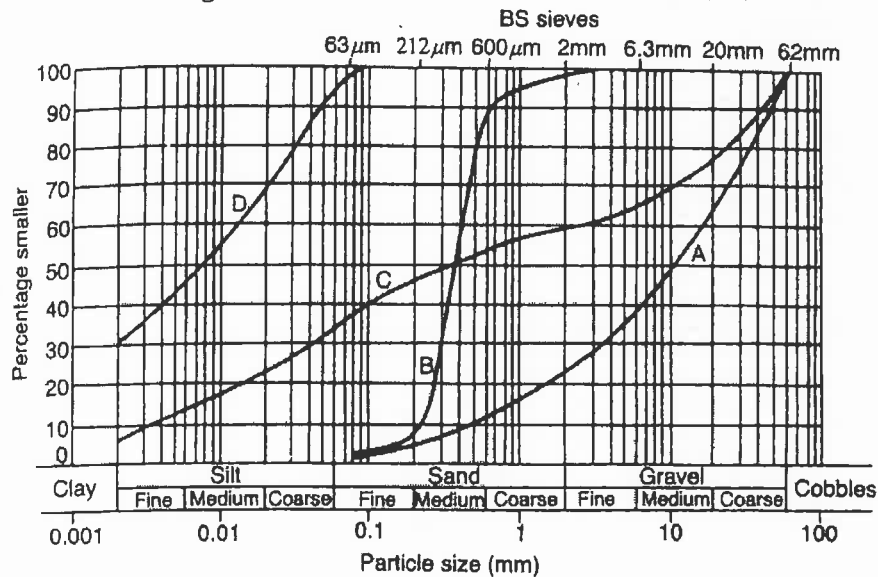

Figure 4
Figure 4 summarizes the grain size results of four different soils A, B, C and D.
- (ii) Which of the soils; A, B, C or D shown in Figure 4 will have the highest shear strength under saturated conditions. Explain.